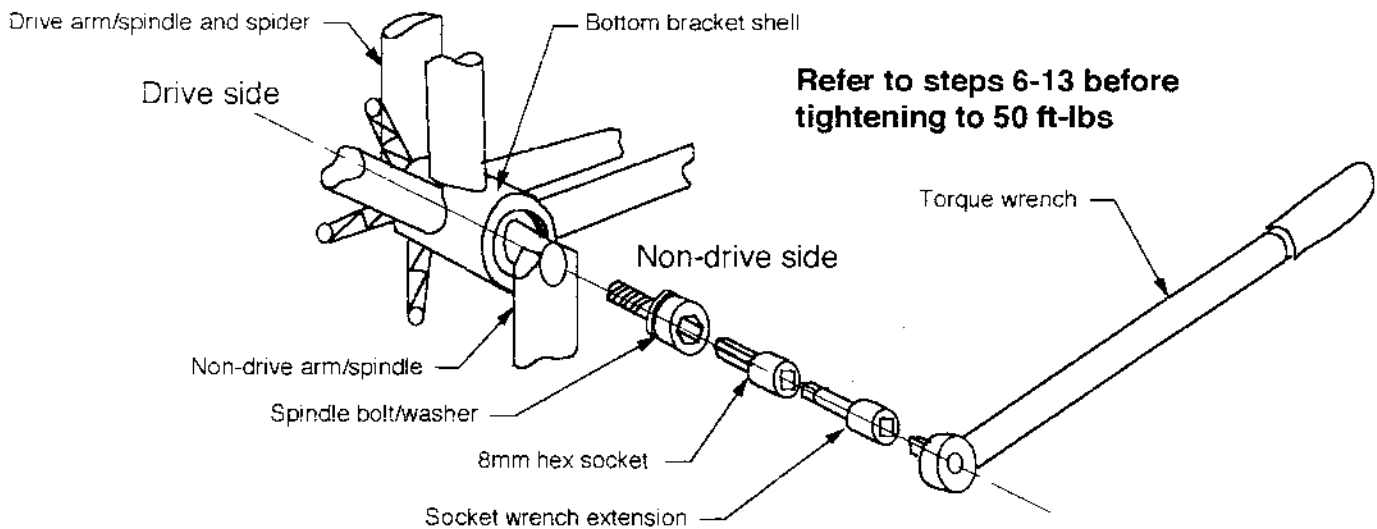

Fig. 4 Installation of spindle bolt
10. Install the spindle bolt and washer through the hole in non-drive arm/spindle. (See Figure 4). **Note:** At this time, **do not** fully tighten the spindle bolt or apply Loctite to the threads.